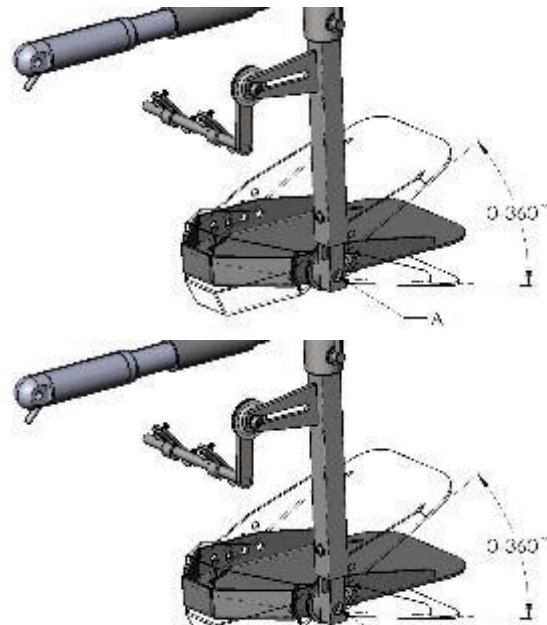

Figure 14
The angle of the footplate can be adjusted to achieve optimal support for the foot. The angle can be fixed by tightening the screw (A) as illustrated on Figure 14 for metal and plastic footplates respectively.